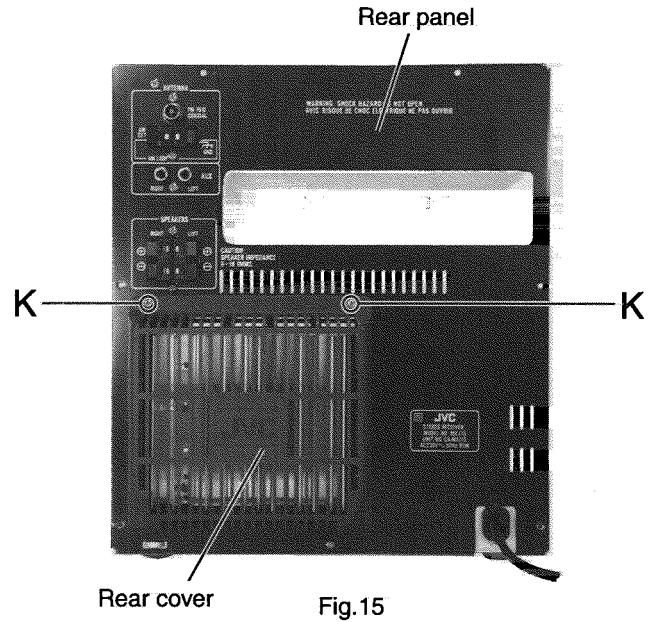

Fig.15
■ Removing the Rear Cover(see Fig.15)
(see Fig.15 to 17)
6. Detach the rear cover from the rear panel and remove the screws attaching the main board and the heat sink(Refer to Fig.15 to 17).